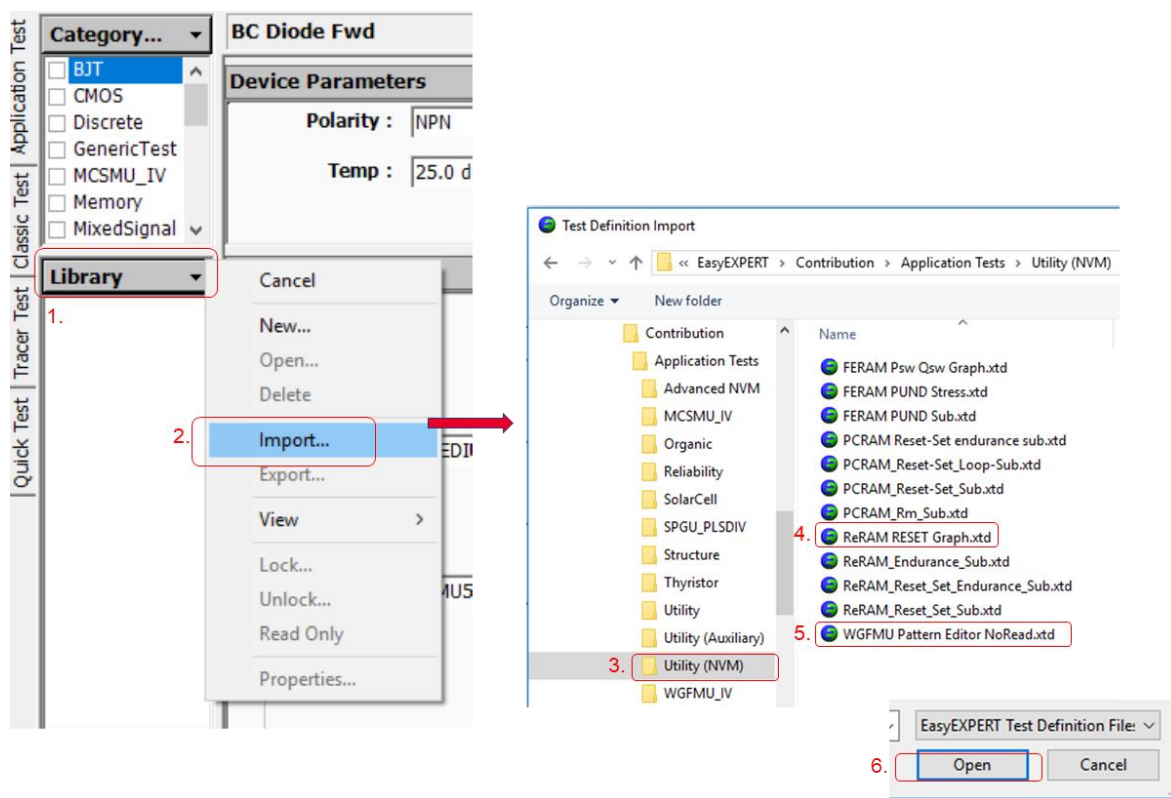

Figure 3-10. ReRAM Application Test installation example.
The step by step instructions for installing the ReRAM NVM group to the existing Workspace are shown. Follow the steps below for ReRAM Installation order, 1st column of Table 3-1, by referring to the corresponding numbers as shown in the installation example at Figure 3-10.
3. Install the Application Test to the existing Workspace in the same way as shown in Figure 3-10.